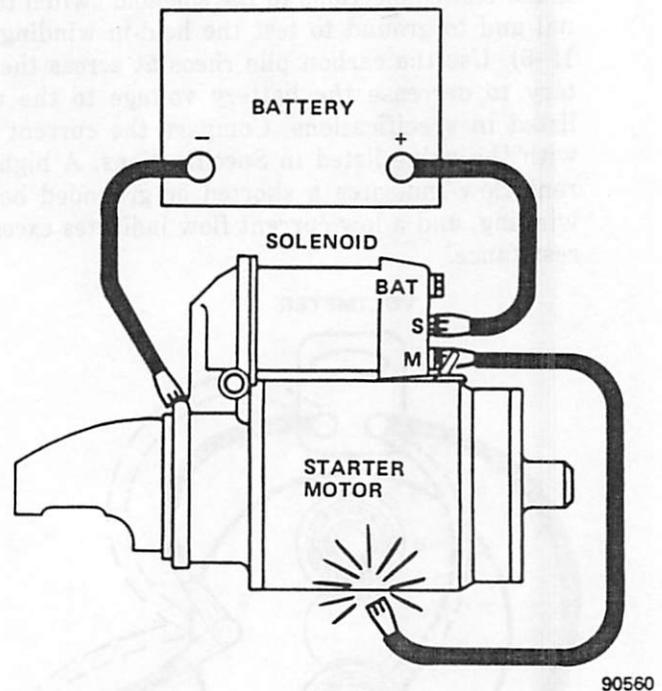

Fig. 1F-9 Pinion Gear Clearance Measurement Test Circuit
(1) Disconnect starter motor field winding connector from solenoid motor M-terminal and THOROUGHLY INSULATE IT.
(2) Connect battery between solenoid switch S-terminal and starter motor frame (fig. 1F-9).